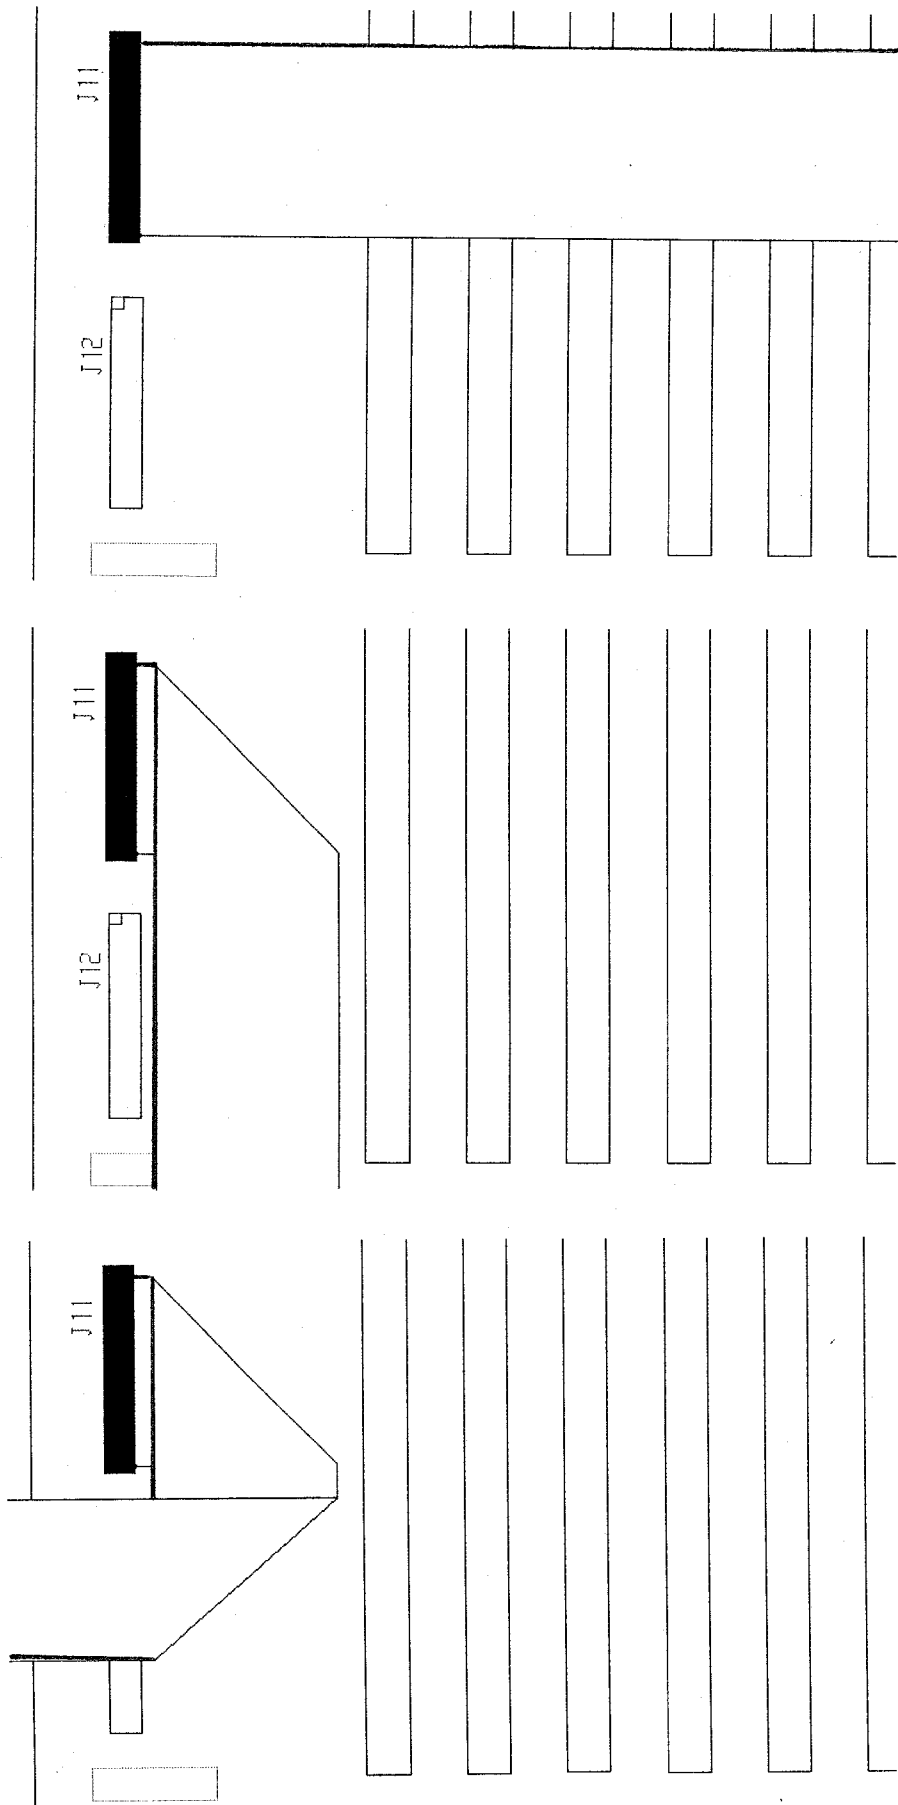

Figure 9, J11 Cable Folds for the Amiga 1000
**7-1) Connect the J11 cable to the Motherboard.** Take one of the cables and with the red stripe facing towards the rear of the case, connectors facing down, plug the left end of the cable into connector J11 on the Motherboard. Using a piece of masking tape, mark the unconnected end of the cable "J11". Make a 90 degree fold in the cable near the J11 Motherboard connector so that the unconnected end of the cable is brought toward the front of the case. Now make another 90 degree fold in the cable so that the unconnected end is to the left of the board. (See Figure 9, J11 Cable Folds for the Amiga 1000.)